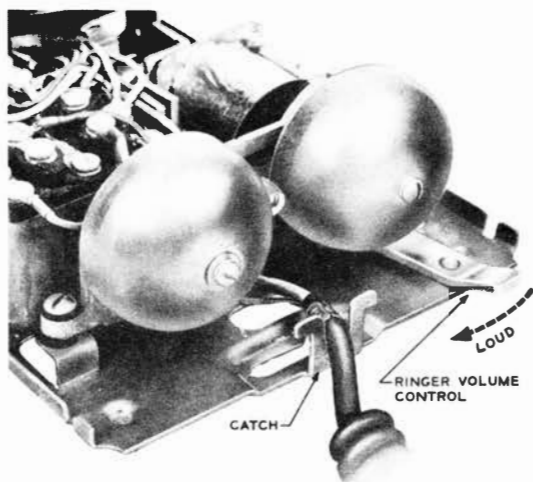

Fig. 34 — 554- or 556-type Set, Ringer Volume-control Lever
- 4.08 The ringer volume-control lever in the 554- and 556-type telephone sets is riveted at one end to the base of the set (see Fig. 34). In the 500-type telephone set, the ringer volume-control assembly is part of the ringer.